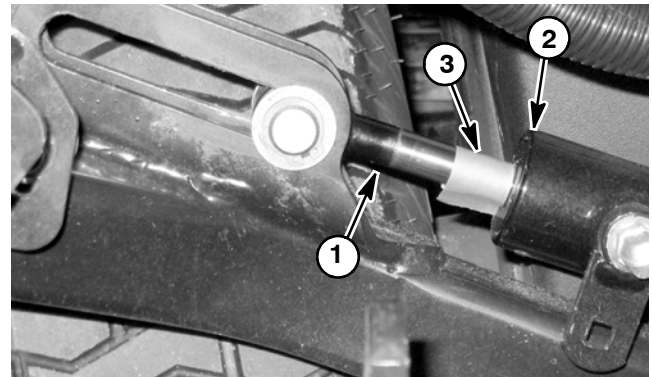

Figure 45
7. Mark the position of the lift cylinder rod at the lift cylinder head with a piece of tape (Fig. 45).